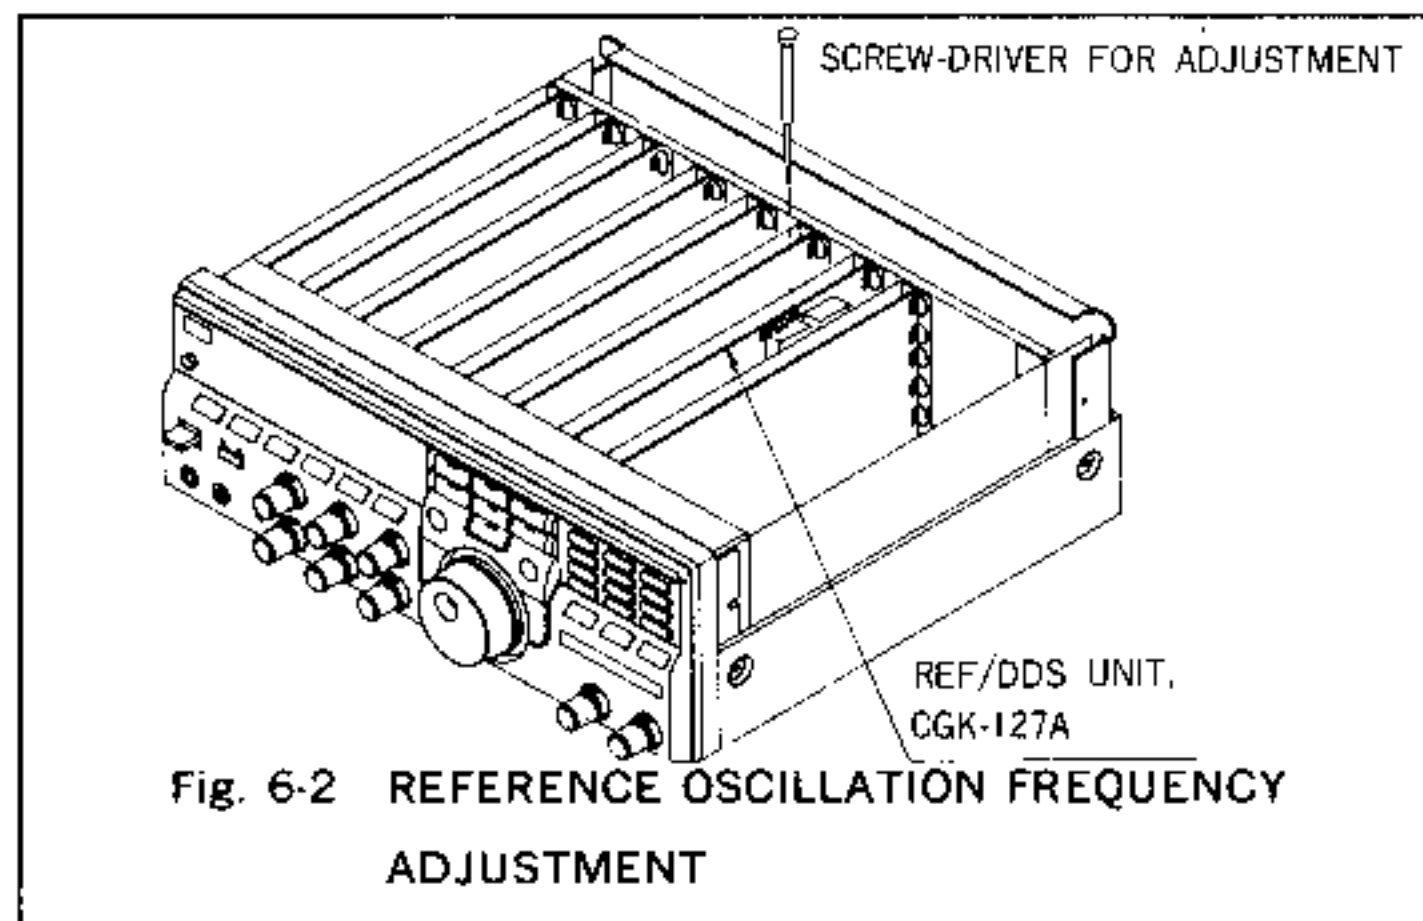

Fig. 6-2 REFERENCE OSCILLATION FREQUENCY ADJUSTMENT
4. Adjust trimmer capacitor CV1, located at the top of the shield case of the REF/DDS board (CGK-127A), until no beat note is heard (see Fig. 6-2).